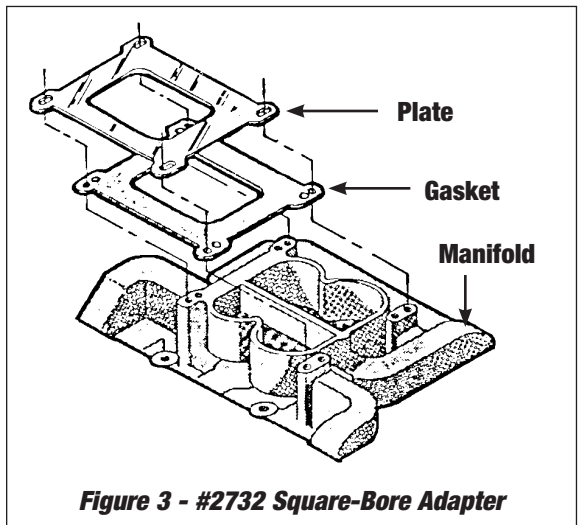

Figure 3 - #2732 Square-Bore Adapter
1. When using an Edelbrock Performer Series or Thunder Series carburetor, Square-Bore Adapter #2732 is required (**See Figure 3**).